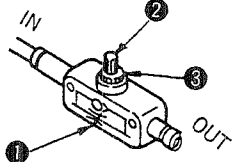

Fig. 4-4-5
- 6) The needle knob of the speed controller (A) for the air exhaustion is fixed using a nut with loosened by a slightly less than one turn after it has been fully tightened. (Fig. 4-4-5)
- 6) Adjust needle knob ② of speed controller (B) ① properly. After the adjustment, fix it using nut ③. (Fig. 4-4-5)